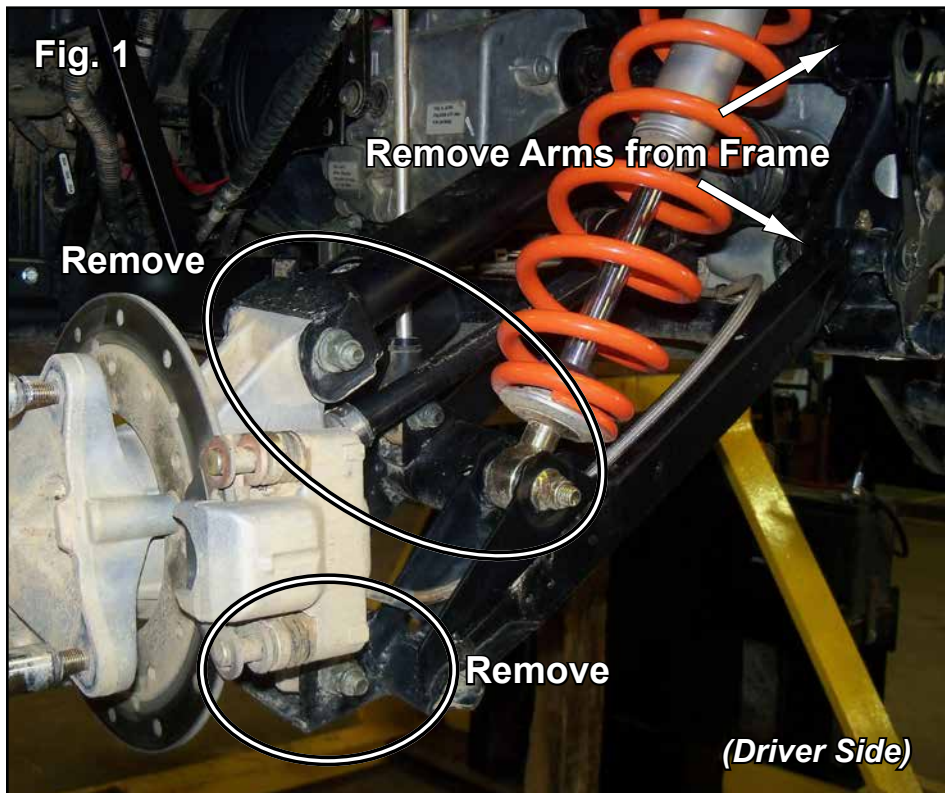

Fig. 2
4. Transfer stock Bushings, or install SuperATV Poly Bushing Kit AAB-P-RZR, into A-Arms (A-D). See Fig. 2.
- Install Grease Fittings (H) into A-Arms (A-D). See Fig. 2.